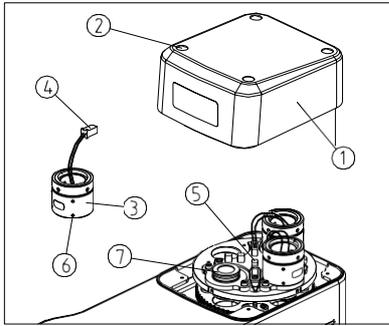

Fig. 18
- (1) Turn off the LED fluorescent illuminator to "O"(OFF), and pull out the external transformer.
- (2) Take down the four patches and screws from the lamp source cover ①, and take lamp cover down. (See Fig.18)
- (3) Cut down the power connect.
- (4) Unscrew the two hexagon screws ⑥ which are using to fix LED fluorescent lamp ③, take LED bulb down from the holder ⑦.
- (5) Replaced new LED bulb, and screw back two hexagon screw. Insert the connecting plug ④ of LED fluorescent light source into circuit board socket ⑤
- (6) Put the cover ① back.